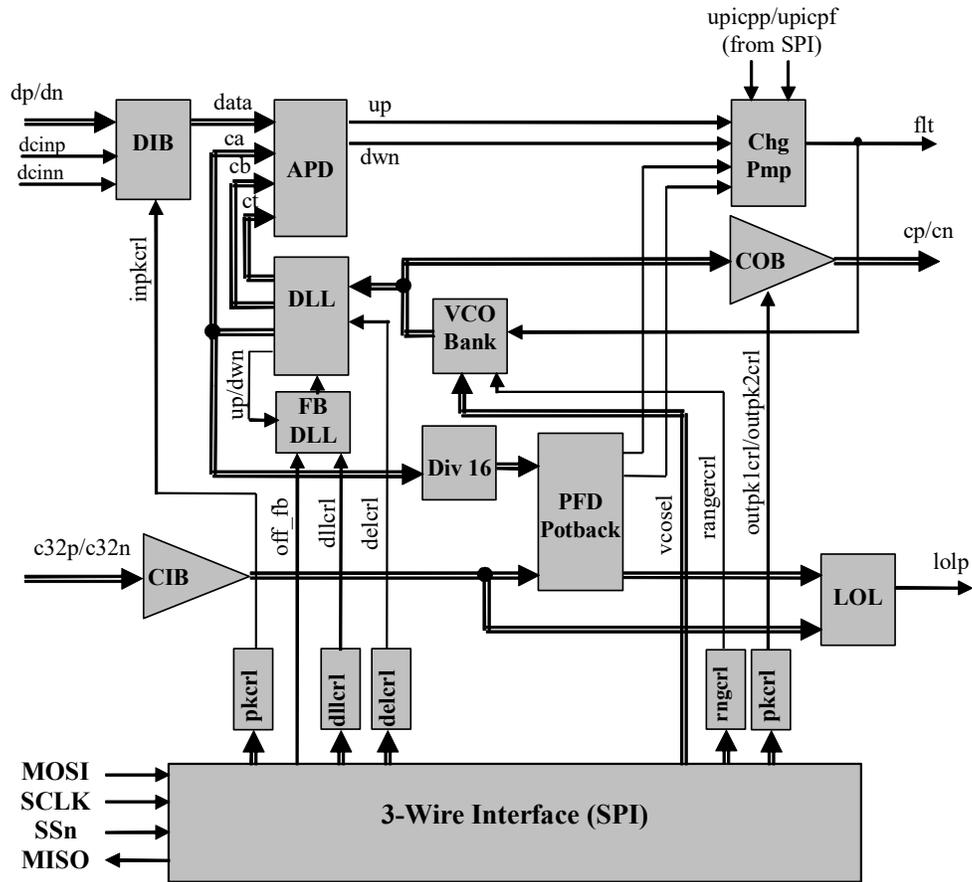

Fig. 1. Functional Block Diagram
This part is a quarter-rate integrated clock recovery (CR) circuit. The IC shown in Fig. 1 covers a wide range of input data rates ( $f_{bit}$ ) by utilizing its six on-chip VCOs (voltage-controlled oscillators). To reduce the physical number of control inputs to the chip, a shift register with a 3-wire input interface (SPI) has been included on chip. The SPI block provides all the digital controls for the chip. It also provides digital controls for digital-to-analog converters (DACs) that handle internal analog DC voltage adjustments.